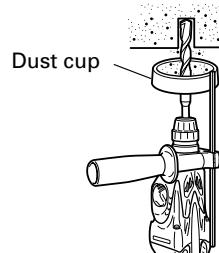
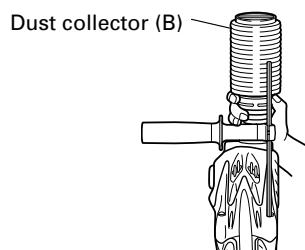

Fig. 4
Fig. 5
**7. Installation of dust cup or dust collector (B) (Optional accessories) (Fig. 4, Fig. 5)**
Use the dust cup by attaching to the drill bit as shown in Fig. 4.
When using dust collector (B), insert dust collector (B) from the tip of the bit by aligning it to the groove on the grip (Fig. 5)